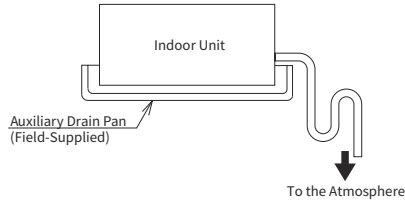

Figure 6.2 Auxiliary Drain Pan
- When the relative humidity of inlet or ambient air exceeds 80%, apply an (field-supplied) auxiliary drain pan beneath the indoor unit as shown in Fig.6.2.